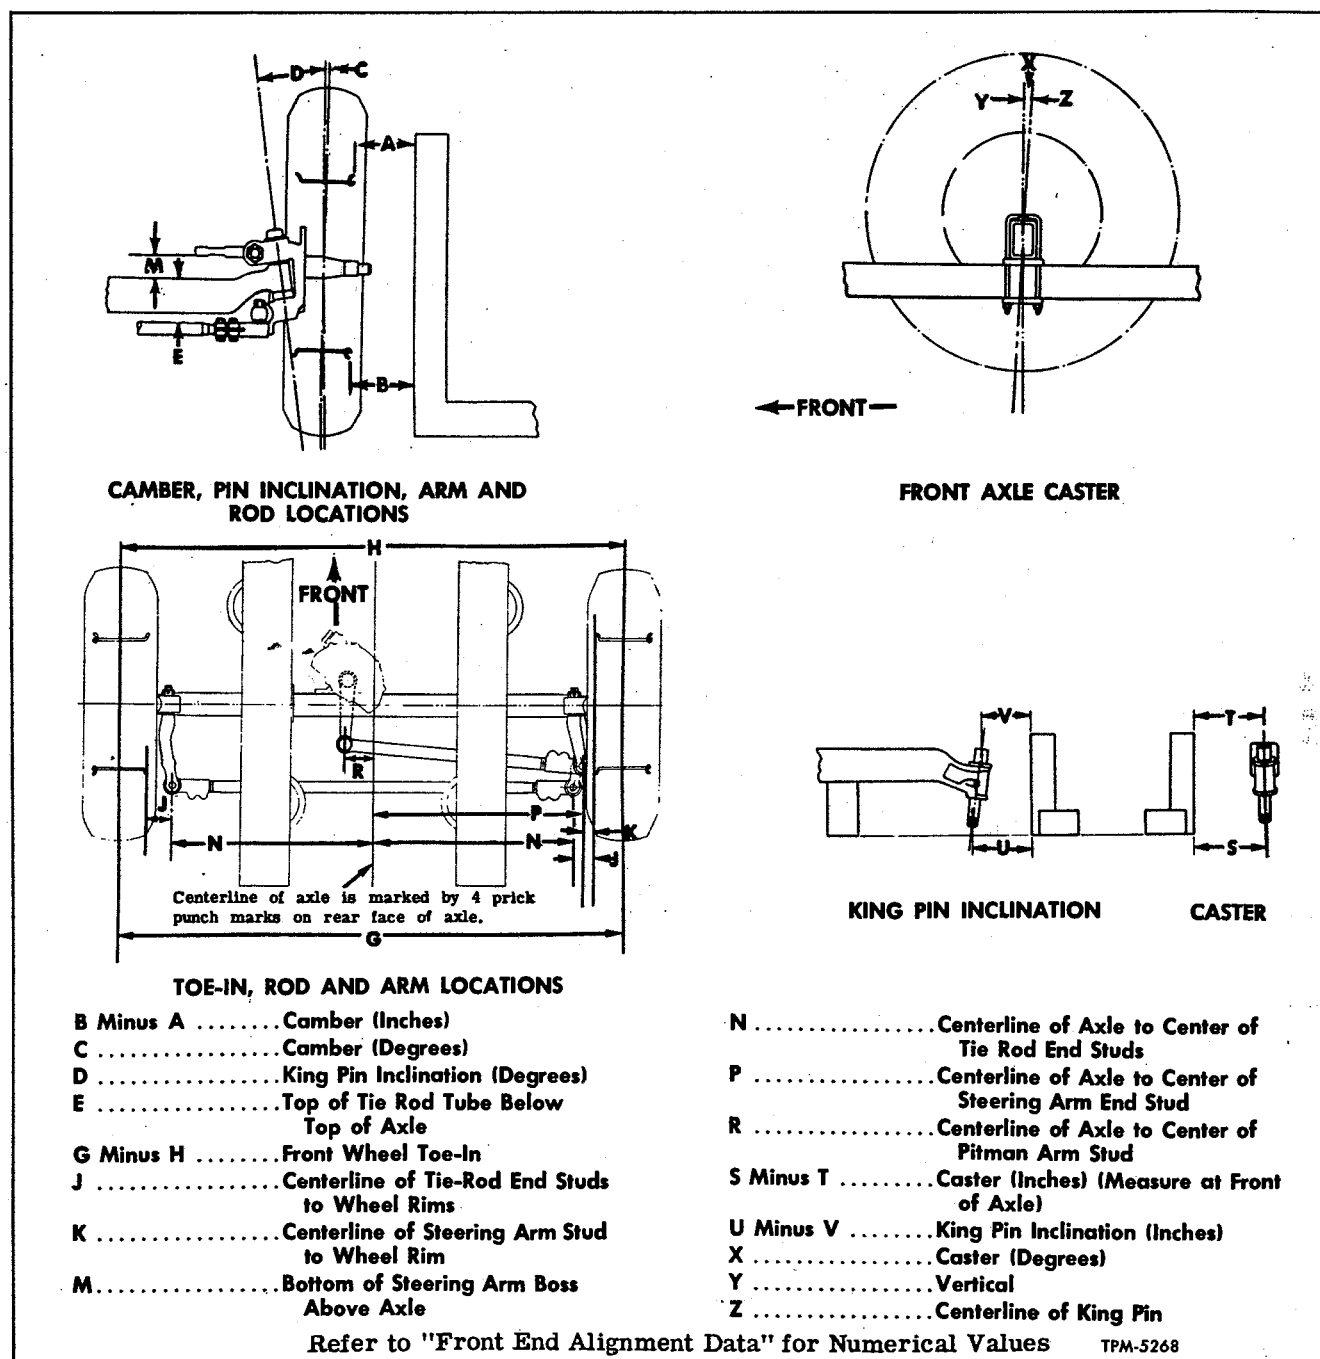

Figure 1—Front End Alignment Chart
WHEEL TOE-IN. Distance front wheels are closer together at front than at rear of axle (see "G" and "H," fig. 1).
WHEEL CAMBER. Amount wheels are inclined from vertical plane (see "C," fig. 1).
FRONT AXLE CASTER. Inclination of king pin from the vertical in the fore and aft direction of the vehicle (see "X," fig. 1).
KING PIN INCLINATION. The slant of the king pin toward the center of the vehicle at the top and outward at the bottom (see "D," fig. 1).
Toe-in is measured from centers of tire tread. Measurements at both front and rear of axle (see "H" and "G," fig. 1) must be made at same height from floor.
Measure at point "H" and "G" (fig. 1). Toe-in is "G" minus "H."
In checking camber it is recommended that an accurate gauge be used. If a camber gauge is not available, readings can be taken as illustrated at "A" and "B" on chart (fig. 1). Place square as shown and measure distance between "A" and rim, and "B" and rim. Lower dimension should exceed upper dimension by amount listed in "Specifications" at end of this section. This dimension on right wheel should not vary over 3/32" from same dimension taken at left wheel.
If final camber reading is incorrect, either steering knuckle or axle center is bent. To determine which part is bent, check king pin inclination ("D," fig. 1). Camber plus king pin inclination is the **INCLUDED ANGLE** of steering knuckle. If included angle of knuckle varies more than 1/2 degree from value given in "Specifications," knuckle is bent.
Place two uniform blocks on level surface. Rest suspension support seats on blocks. Using square, measure "S" and "T" dimensions (fig. 1) at front side of axle. "S" minus "T" equals caster in inches. If this dimension does not agree with specified value, then axle is twisted.
Place two uniform blocks on level surface, rest suspension support seats on blocks. Using square, measure "U" and "V" dimensions (fig. 1). "U" minus "V" equals king pin inclination in inches.
1. Position of top of tie rod tube below top of axle ("E" fig. 1).
2. Distance from bottom of steering arm to top of axle ("M" fig. 1).
3. Distance of center of tie rod end studs to edge of wheel rims ("J" fig. 1).
4. Distance from center of steering arm stud to edge of wheel rim ("K" fig. 1).
5. Distances of center of tie rod end studs to centerline of axle ("N" fig. 1).
6. Distance of center of steering arm end stud to centerline of axle ("P" fig. 1).
7. Distance of center of pitman arm end stud to centerline of axle ("R" fig. 1).